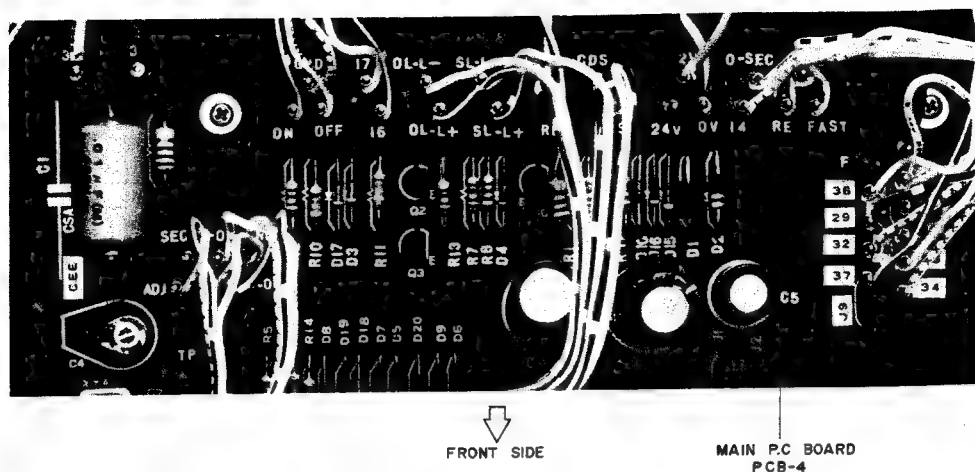

Fig. 5 Main P.C Board PCB-4 (DT-100)
REFERENCE PERIOD SIGNAL MICROADJUSTMENT (Refer to Fig. 5 to 7.) Connect the frequency counter to TP (DT-100), TP2 (DT-200) and pin ④ of IC2, set function to "period".